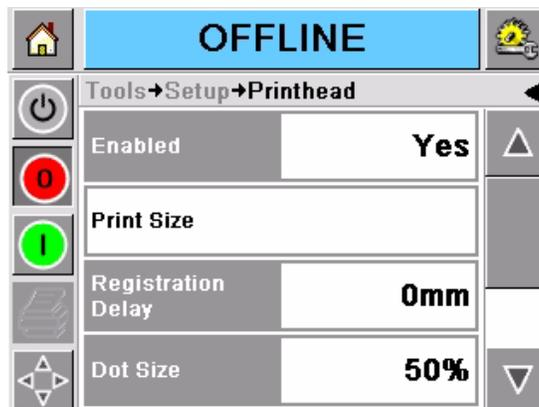

Figure 4-20: Dot Size
- 1 Go to *Tools > Set up > Printhead*. Select *Dot Size* (Figure 4-20).